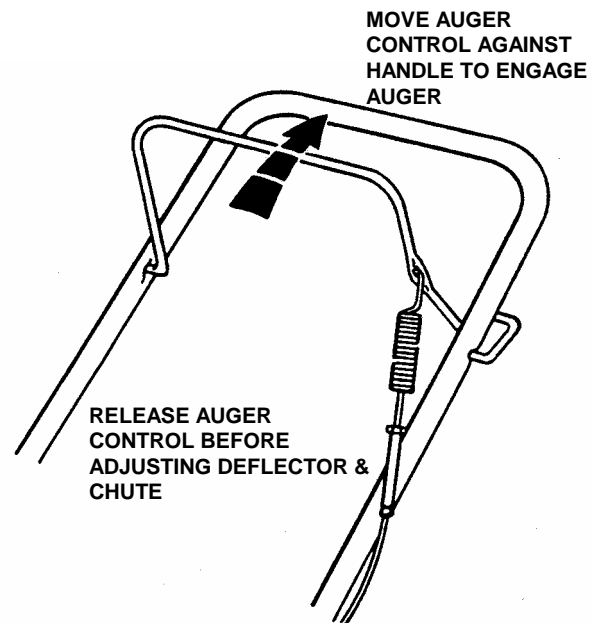

FIGURE 2.5
1. Pull auger control against handle to engage auger. See Figure 2.5.